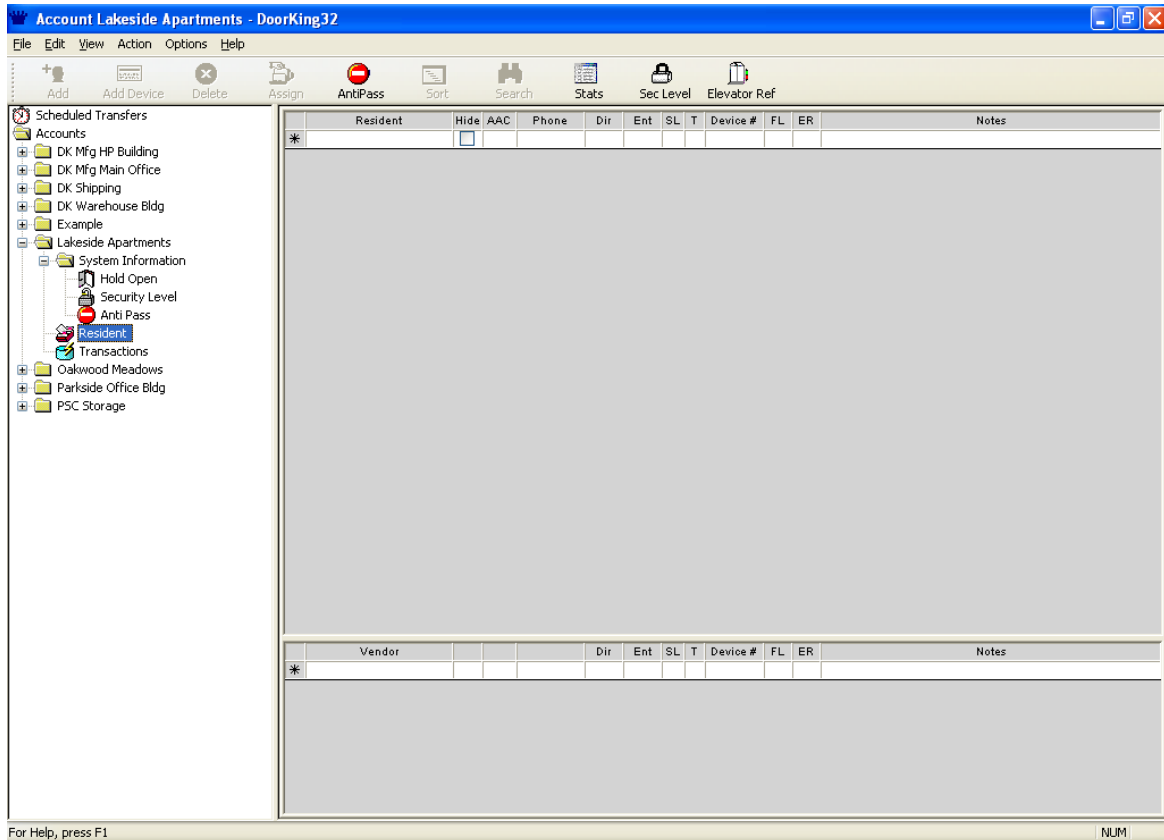

Figure 46
3. The User (Resident) information screen will appear (Fig 46).